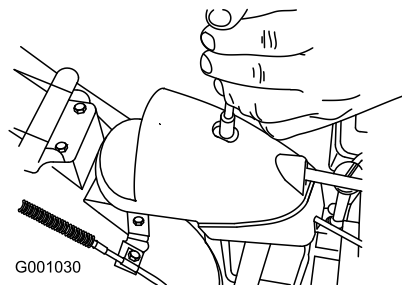

Figure 60
- Remove the fastener on the gear cover (Figure 60), lift the front of the cover up, and slide it back and out of the way.